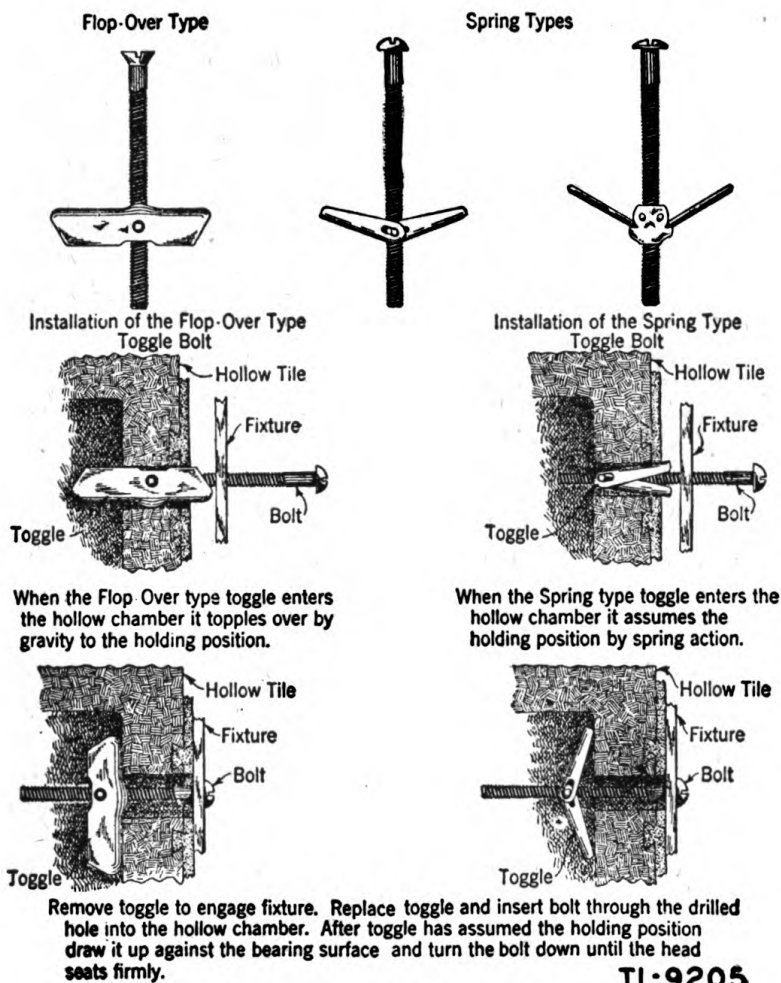

Figure 10. Toggle bolt anchors.
(3) Toggle bolts are of two general types, flop-over and spring, and are intended for use in attaching fixtures to hollow tile and similar surfaces. (See fig. 10.) The security of toggle bolt installation is dependent upon obtaining a satisfactory bearing area for the toggle. Table IV lists the various sizes of toggle bolts, giving the maximum spread of each toggle and the diameter to which the drilled hole should be restricted for most satisfactory results.